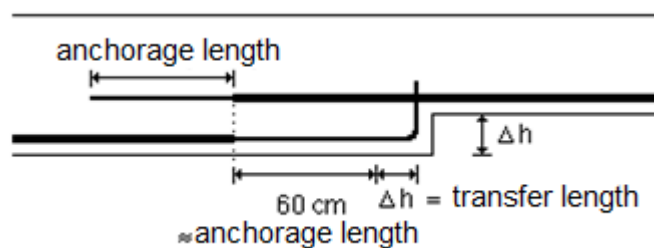

Figure 34: Reinforcement – anchorage and transfer length
2. The reinforcement sections are determined by also taking the fact into account that bars, which work at the bottom of the bigger beam section, only become effective after acquiring a certain length. This length is determined by the anchorage length increased with the transfer length needed to transfer forces from one bar level to the other (Figure 34). The program takes as anchorage length a constant value of 60 cm because we have not yet determined bar diameters. In the zone with length equal to the transfer length plus 60 cm, ConCrete assumes for the determination of the required mm^2 reinforcement that the working section varies linear.